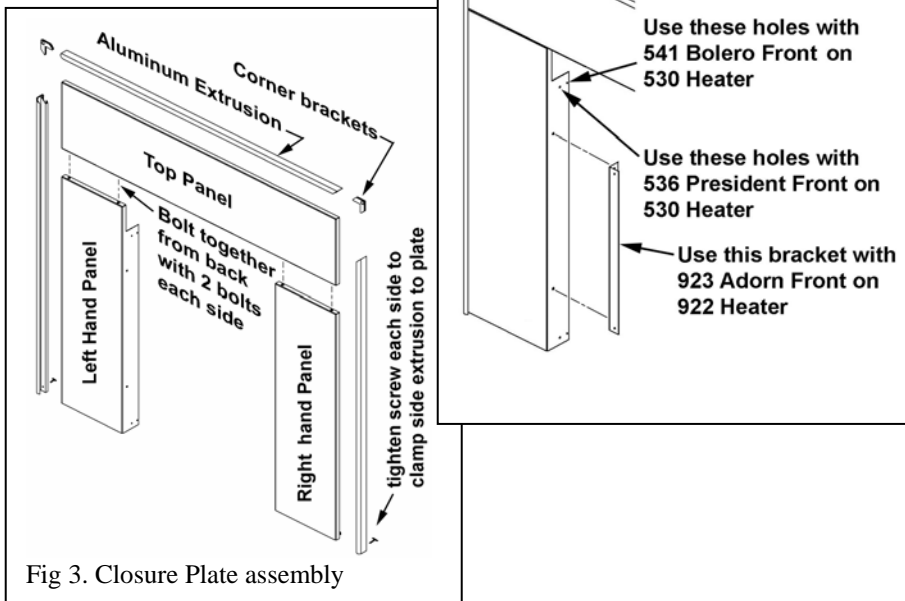

Fig 3. Closure Plate assembly
- Lay the panels out face down on the floor and assemble using the bolts supplied ( see fig 3 )